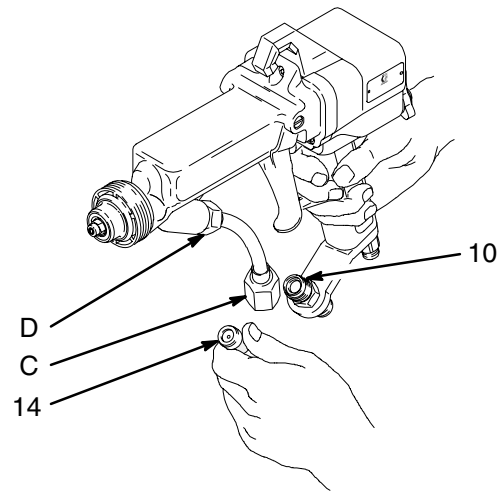

Fig. 10
2. Disconnect the bottom fluid tube nut (C). See Fig. 10.
3. Carefully unscrew the top fluid tube nut (D).
3. Remove the fluid filter (14) from the fluid fitting (10). Clean or replace the filter, as needed.
4. Install the fluid filter back into the fluid fitting (10) and tighten the bottom fluid tube nut (C) onto the fluid fitting; make sure the top fluid tube nut (D) remains tightened.